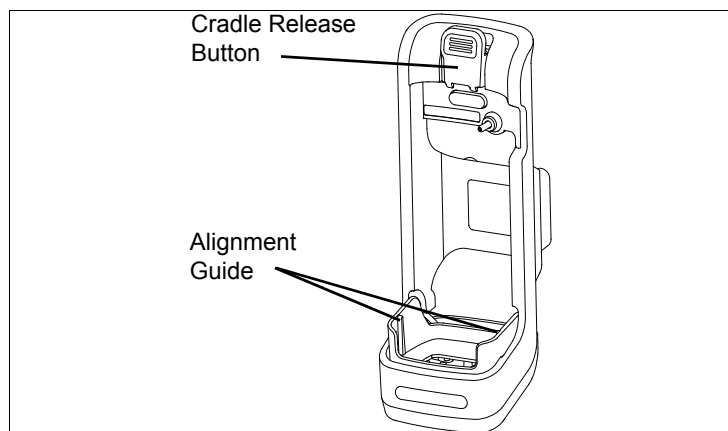
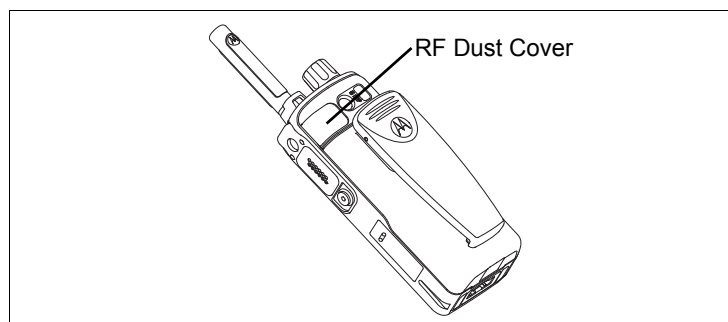

Figure 1. Vehicular Cradle.
Figure 2. TETRA Handportable Terminal.
1. Place the TETRA Handportable Terminal in the cradle by aligning the slots on the lower side of the TETRA Handportable Terminal with the alignment guides located at the bottom of the cradle as shown in *Figure 1*. Make sure that the TETRA Handportable RF Dust Cover is open (see *Figure 2*) before inserting it to the cradle.
1. Press down on the cradle release button (see *Figure 1*) and lift the TETRA Handportable Terminal upwards from the cradle.